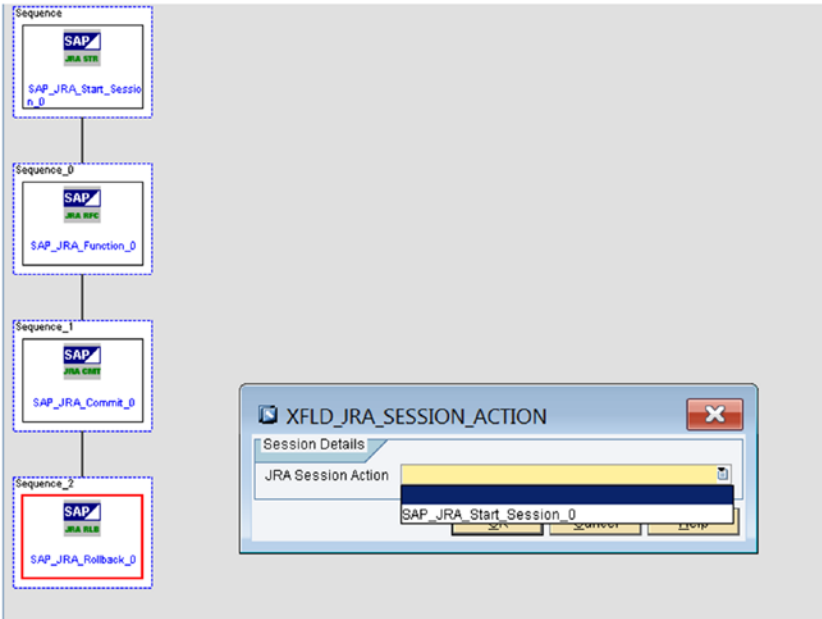

Figure 7-166. JRA rollback action block and its configuration
- **SAP JRA Rollback:** This action can be used to roll back a function call during a session between SAP MII and SAP ERP Central Component (SAP ECC) using SAP Java Resource Adapter (SAP JRA). See Figure 7-166.